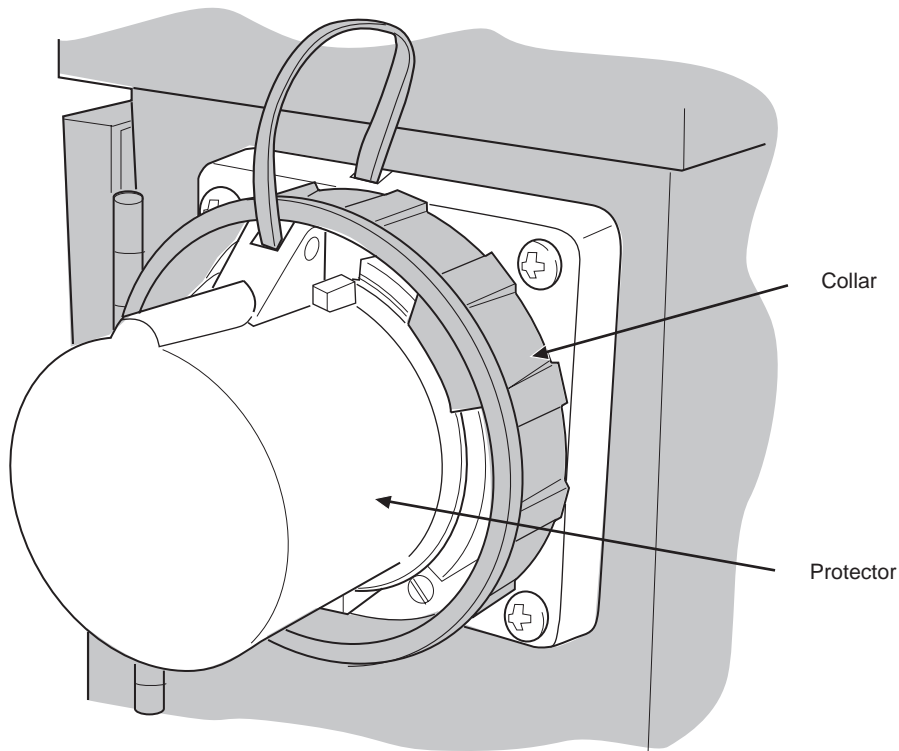

Figure 43. Receptacle Protector
- 6 Rotate the collar behind the protector as necessary; then, pull the protector off the receptacle as shown in Figure 43 on page 50